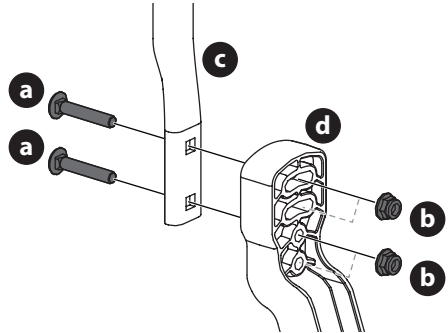

Fig. 8
1. Remove the two carriage screws (a) and two flange lock nuts (b) that secure the lapbar drive control lever (c) to the upper handle adjuster (d) (Fig. 8).
2. Move the lapbar drive control lever (c) into one of two available heights and secure in place with the carriage screws (a) and flange lock nuts (b) (Fig. 8).